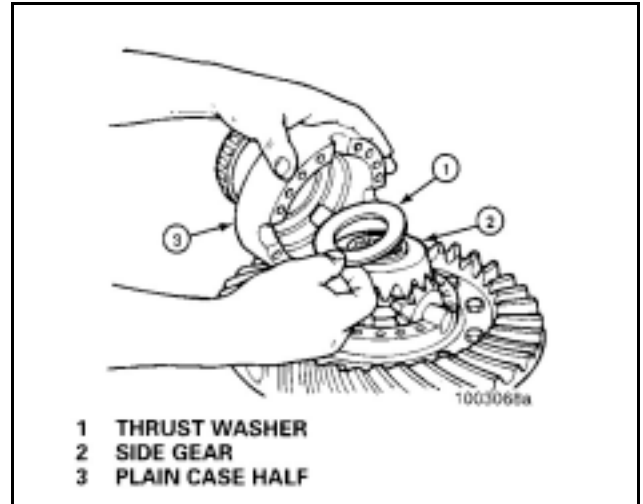
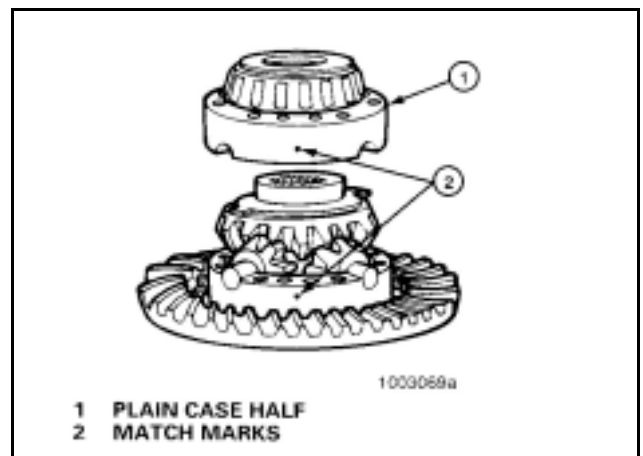

Figure 90
Figure 91
13. Install the second side gear and thrust washer over spider and differential pinions. **Figure 90.**
14. Place the plain half of the differential case over the flange half and gears. Rotate the plain half as needed to align the match marks. **Figure 90 and Figure 91.**